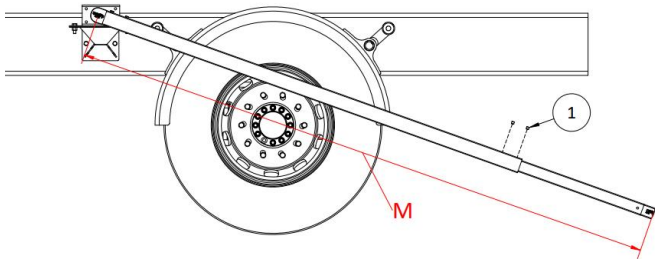

FIGURE 3.19: INSTALL UPPER ARM
Using measurement "M", measure from the center of the pivot to the top of the 90° corner on the upper arm. Adjust upper arm in or out to match this measurement. For aluminum arms that have pre-tapped holes, insert provided 1/2" set screws (1) to the upper 2 holes on each lower arm and secure in position. For steel arms with thru-holes, mark and drill through the upper arms using an 11/32" drill bit, insert provided 5/16" x 1-3/4" bolt and nut, and tighten. Our example shows set screws being added. See *Figure 3.19*.